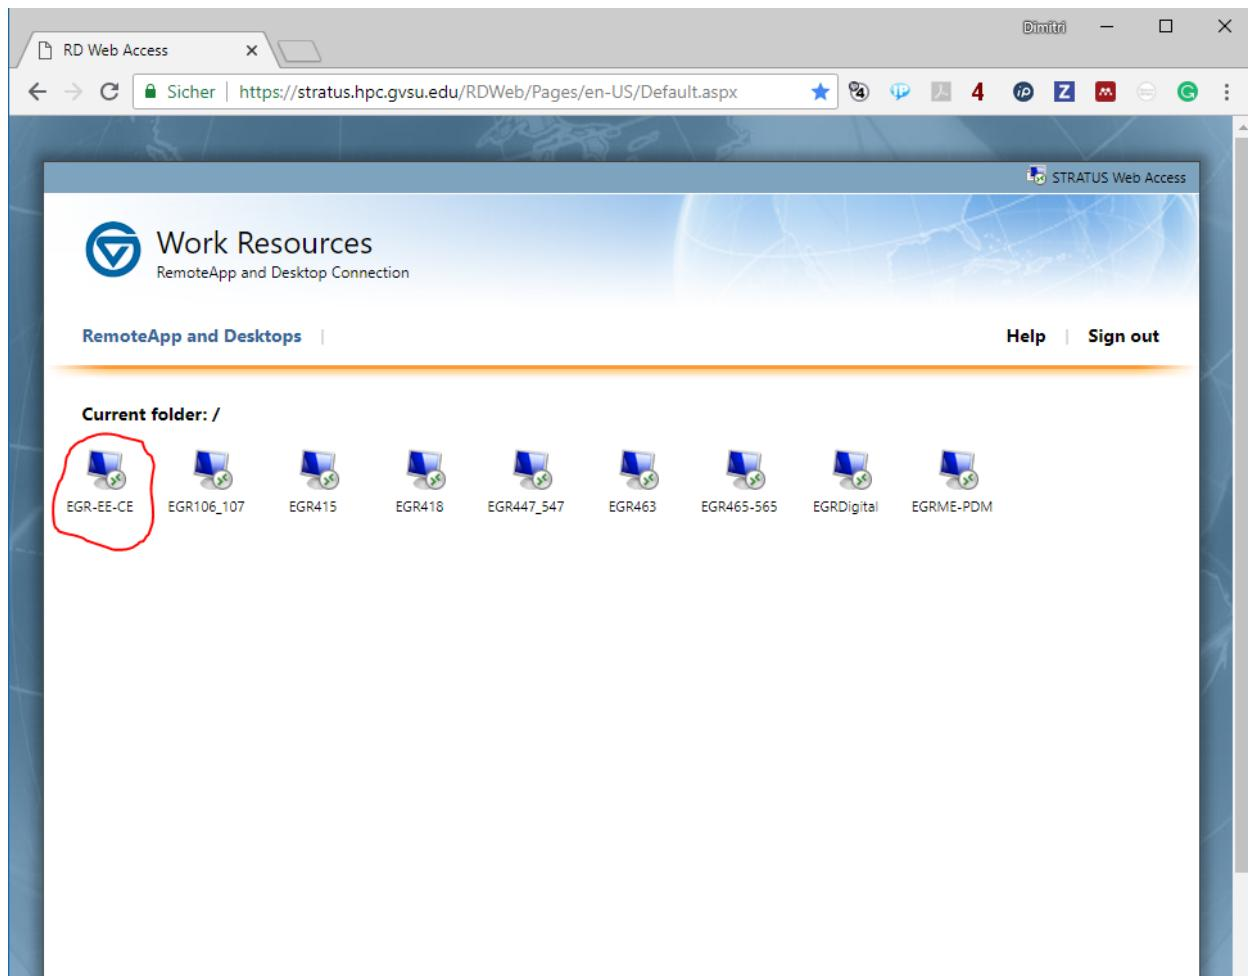

Figure 3: Stratus download blade server remote desktop connection file EGR-EE-CE.
2. After a successful login use the EGR-EE-CE blade icon which is circled red by one left clicking on it which will download a remote desktop connection file type that can be used to start a remote connection to the EGR-EE-CE blade server as shown in figure 3. For further questions a link to Microsoft support website is provided <https://support.microsoft.com/en-us/help/17463/windows-7-connect-to-another-computer-remote-desktop-connection>. Most likely if you open the desktop connection for the first time, you will be asked again to enter your engineering network credentials they are the same as used in the previous step.